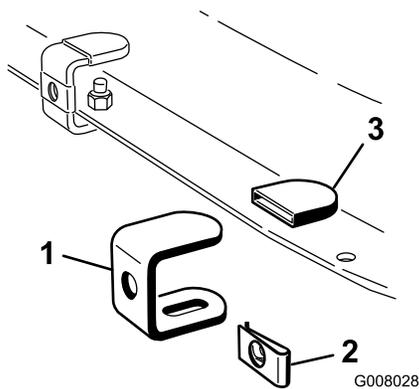

Figure 1
1. Assemble three brackets as shown in (Figure 1) using three rubber caps, three speed nuts and three brackets.